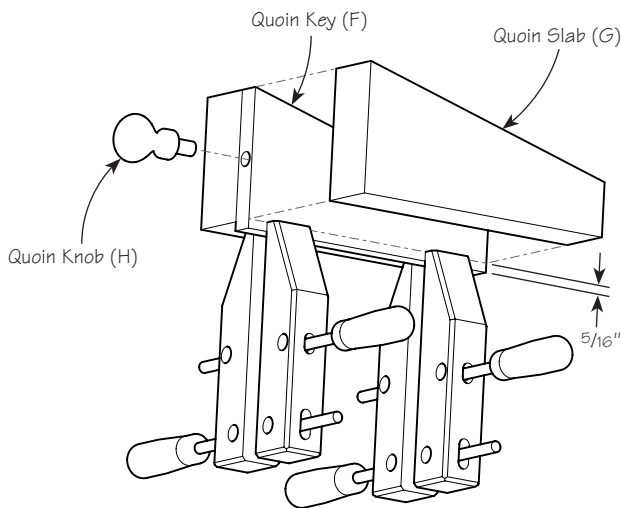

Figure 4: Quoin assembly.
10. Assemble the quoin. After the parts are cut to size, glue them together as shown in **Figure 4**. The key should project from the bottom face by slightly less than the depth of the plank groove. This may best be achieved by checking the plank groove depth and drawing a line on both sides of the key parallel to the bottom edge to correspond to the groove depth. Clamp a couple of blocks or use hand screws to create stops that will determine the position of the slabs during glue-up. Assemble the key and slabs with glue (white or yellow carpenter's glue is adequate). Ensure the slabs are in contact with the stops you have clamped in place on the key and that all three pieces are aligned as close to flush as possible on both front and back. Allow the glue to set. Use a plane (a block plane is well suited) to shave the three different parts flush on the front, back and top of the assembly. Clean up any glue squeeze out on the bottom of the assembled quoin. Lay out and drill the ¹/₂" hole shown on **Drawing F**.